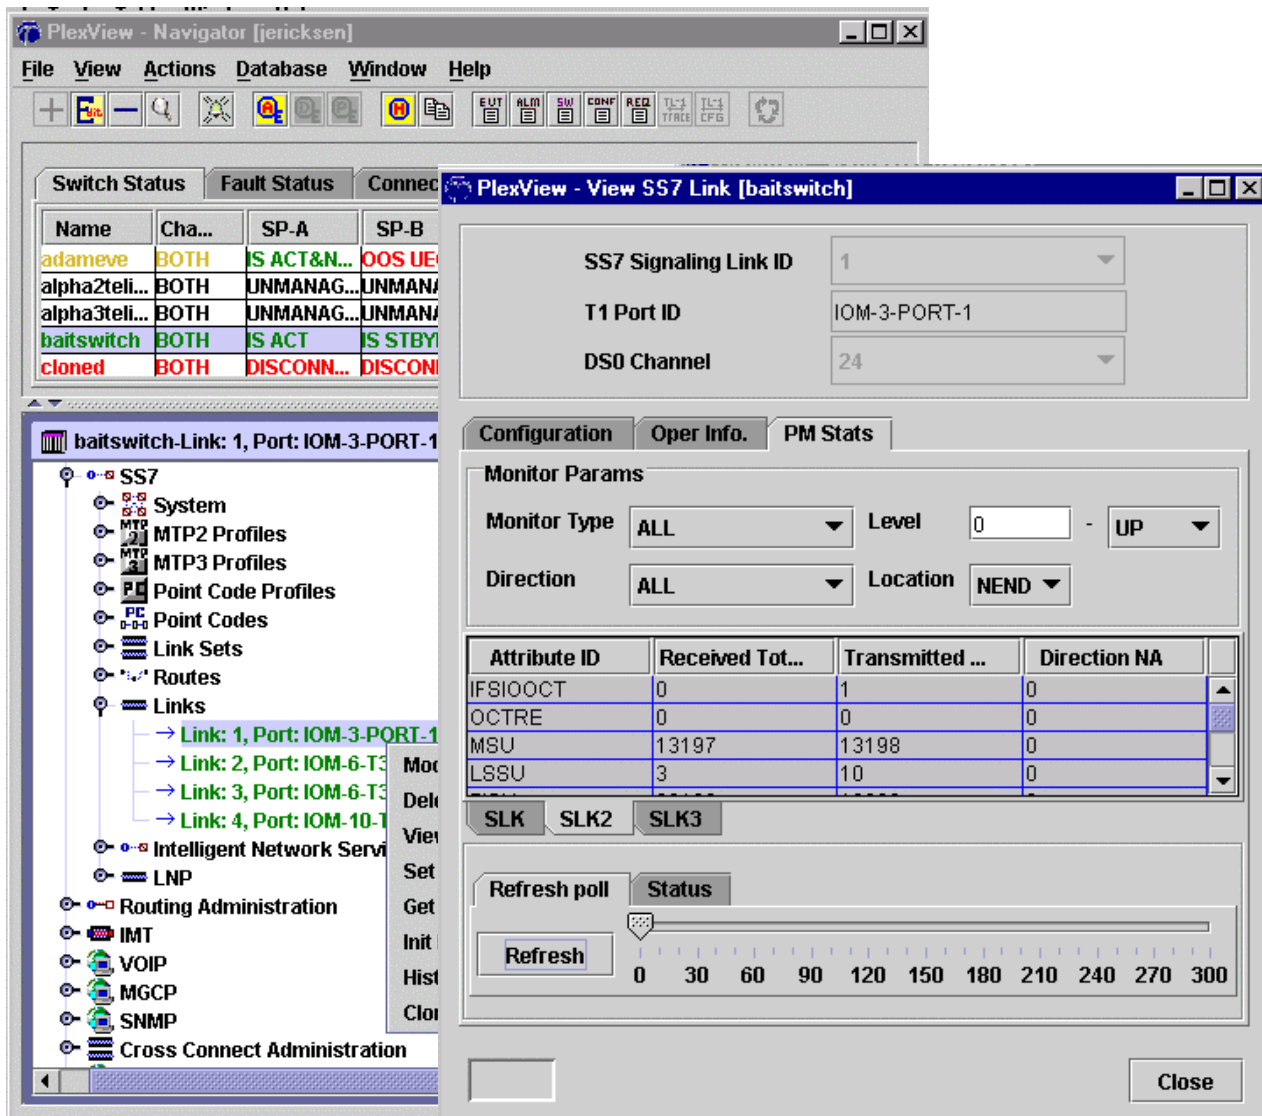

Figure 2. Signaling Link Layer 2 PM Status
7. Retrieve current and historical performance data for signaling link layer 2. Double-click the switch, *SS7* and *Links*. Right-click the *link*, click *View* and then select *PM Stats* tab at the top and the *SLK2* tab toward the bottom. See Figure 2.
9. Clear or initialize the signaling link layer 2 counters. Double-click the switch, *SS7* and *Links*. Right-click the *link*, click *Modify* and then select *PM Stats* tab at the top and the *SLK2* tab toward the bottom. Make desired changes and then click *Ok* or *Apply*. See Figure 2.